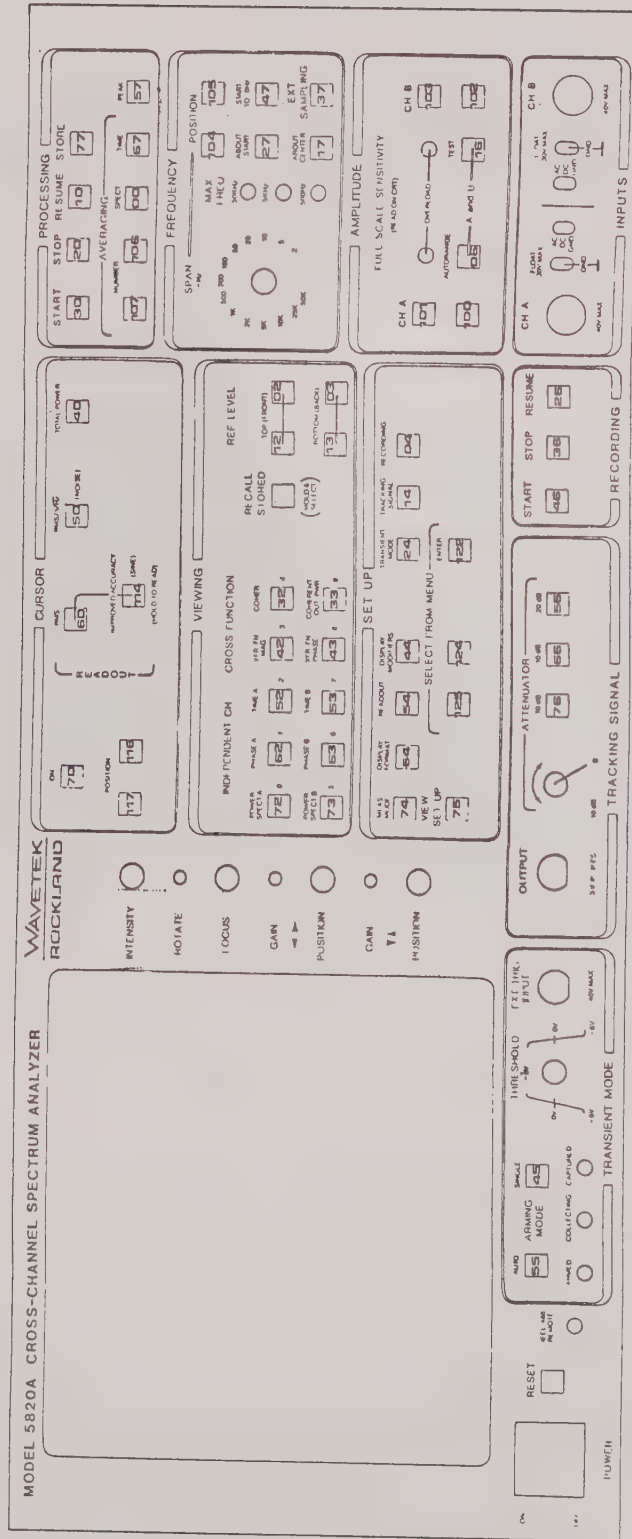

Fig. C-2-1b Front Panel Switch Codes
The results of the board tests are also indicated by turning on LED's. All the LEDs are coded and identified in Fig. C-2-1b. The specific error codes corresponding to the boards are given in the table below. In addition, more specific failure modes are indicated by the LED error codes.
Next to "Key" is a 4-digit code, corresponding to the numbers indicated in Fig. C-2-1b, for the front panel key that was most recently pressed.
Proceed to procedure (D) if the EPROM error indicating LED is on (Front Panel Key 72, Fig. C-2-1b), otherwise go to Step II.
- a) The codes of the rear panel switches can be checked during the TSG test. Proceed to procedure (M) for any failure on these switches.
- c) All LEDs have to be on all the time; proceed to procedure (N) if this condition is not met.
- d) The codes of the toggle switches and the span switches can be checked (Section C-2-2) during the FRONT PANEL test. Proceed to procedure (O) for any failure of these switches.
Press any key on the front panel; the code of the key pressed will appear next to "KEY" position. Proceed to procedure (P) if pressed key's code does not match that in Fig. C-2-1b; otherwise go to Step (e).